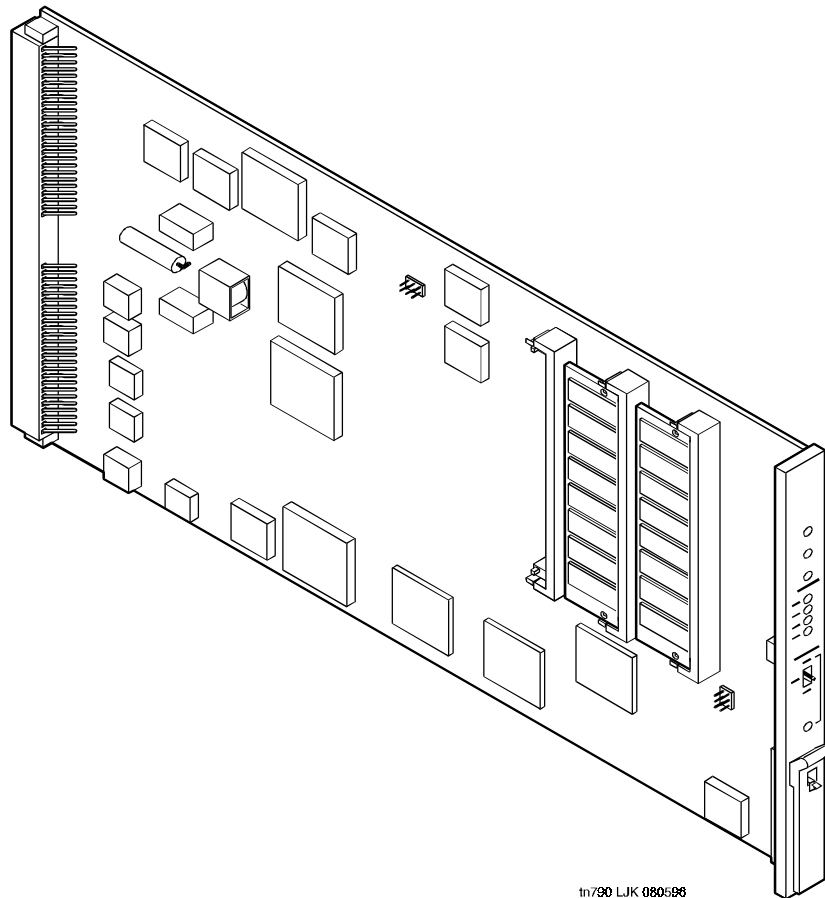

Figure 3-7. TN790 Processor Circuit Pack
See Figure 3-7 to locate the SIMM sockets on the TN790 processor circuit pack.
2. Place the TN790 Processor circuit pack on an ESD-approved work station, such as the anti-static circuit pack packaging or anti-static mat, with the SIMM socket facing up and to the left, as shown in Figure 3-7.